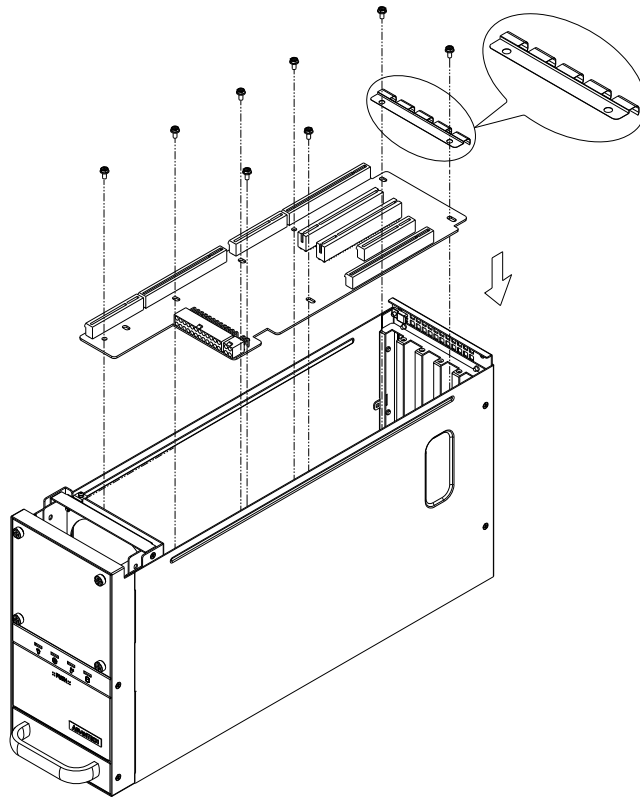

Figure 2.2 Installing the backplane/ 安装无源底板 / 安裝無源底板
1. After installing a BACKPLANE, install the EMI finger (included in accessory box) on the rear side of the backplane (see Figure 2.2)
2. And then fasten both backplane and EMI finger in place with the screws provided. (see Figure 2.2)
1. 安装完无源底板后可将 EMI 弹片（附件盒内已提供）安装至无源底板后部，如图 2.2 所示。
2. 然后使用附件盒内提供的螺丝固定无源底板和 EMI 弹片，如图 2.2 所示。